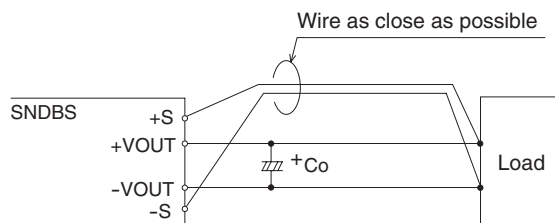

Fig.4.2 Connection when the remote sensing is in use
(2) When the remote sensing function is in use
■ Please see Fig.4.2 if you use the remote sensing function.